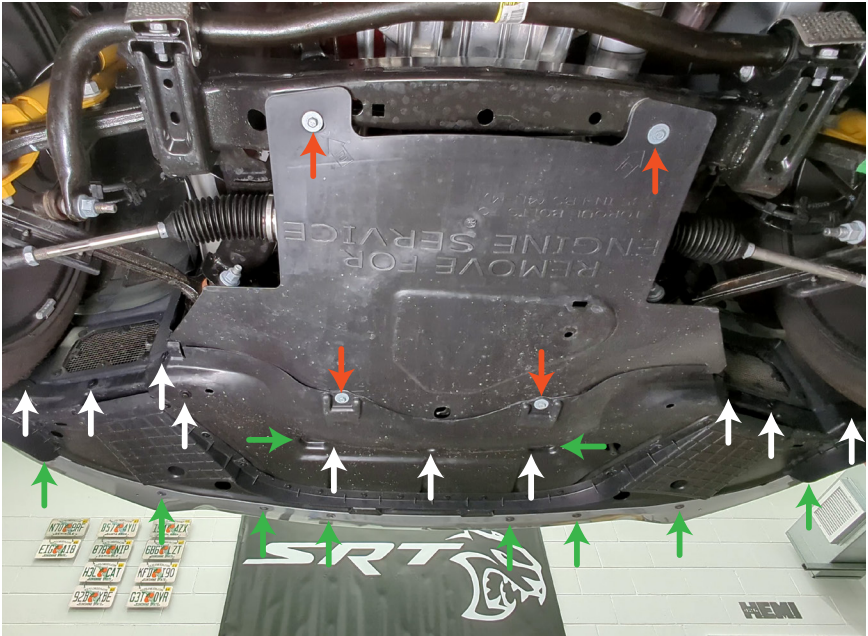

Figure 9 - Splash Guard Hardware Removal
2. Referring to Figure 9, remove the two plastic splash guards:
10. Reinstall the splash guards by referring to Figure 9.
2. Use a 10mm tool to remove the plastic splash guard screws marked with orange arrows in Figure 9.